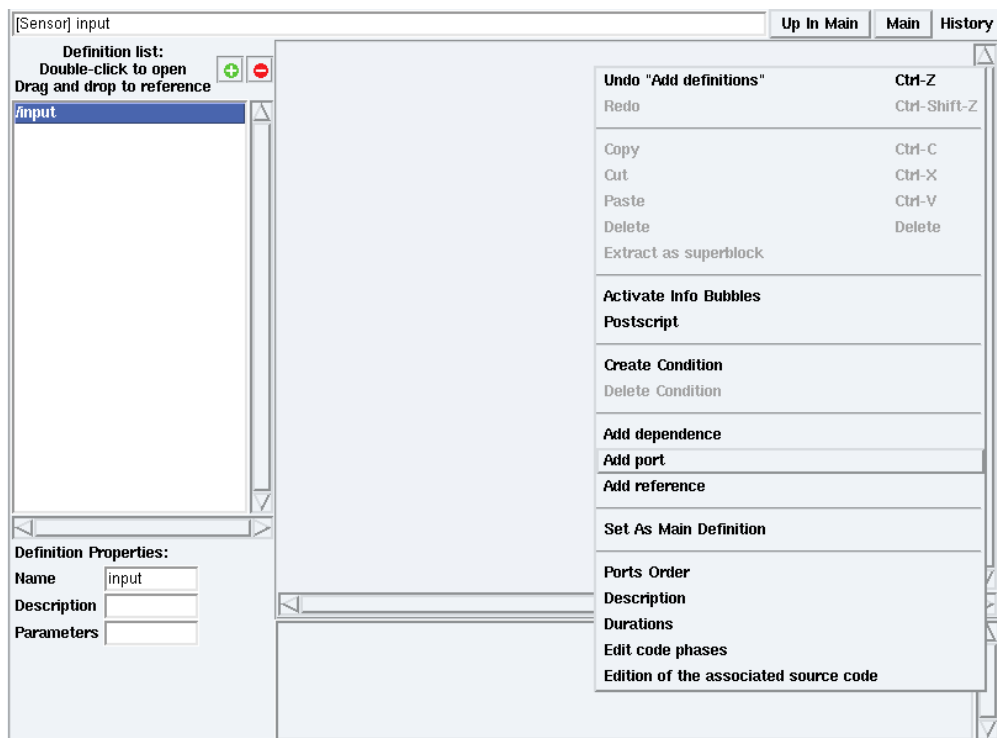
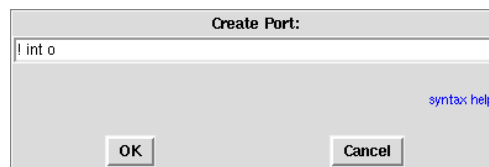
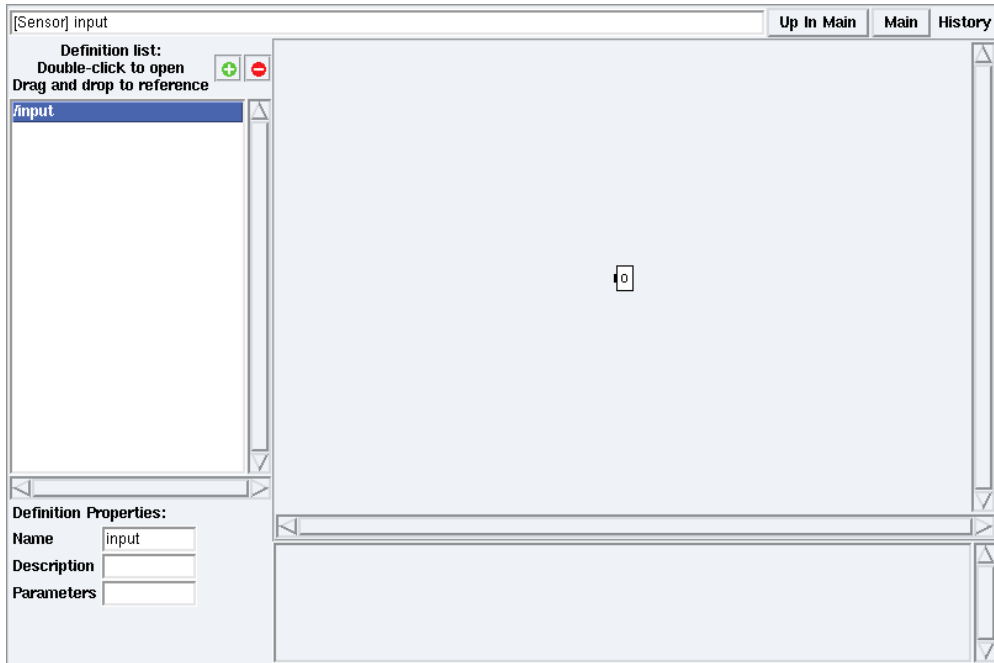

Figure 1.5: Contextual menu → **Add port**
Figure 1.6: **Create Port**
Figure 1.7: Sensor definition window after output port created
- in `input` definition mode, right click on the background and select **Add port** (cf. figure 1.5). It opens a dialog window for the port's direction, type, name and optionally its size. For example type `! int o`, then click **OK** (cf. figure 1.6). It creates the integer output port `o` (cf. figure 1.7) in the sensor definition window.